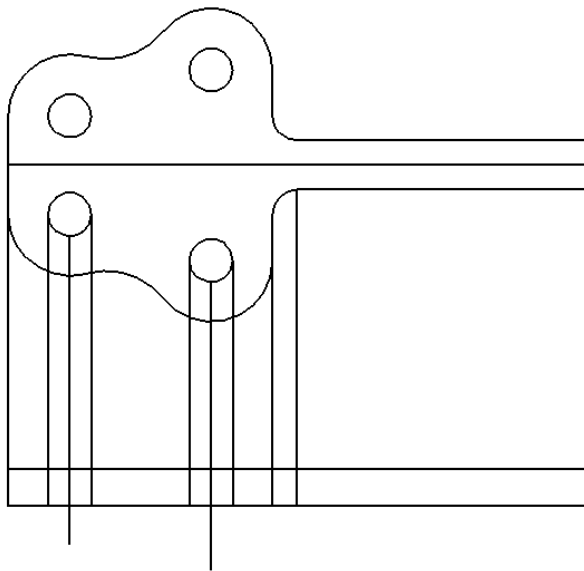

Figure 10.18 – Offset a Line 15 mm
*** World Class CAD Challenge 10-20 * - Create a New file and draw the 31 entities shown in Figure 10.18 in 2 minutes 35 seconds. Continue this drill four times, each time completing the drawing under 2 minutes 35 seconds to maintain your World Class ranking.**